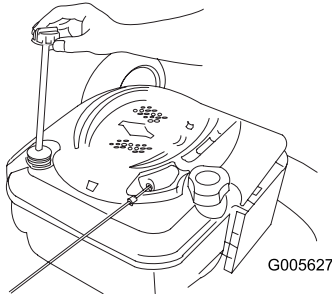

Figure 31
2. Remove the dipstick (Figure 31).